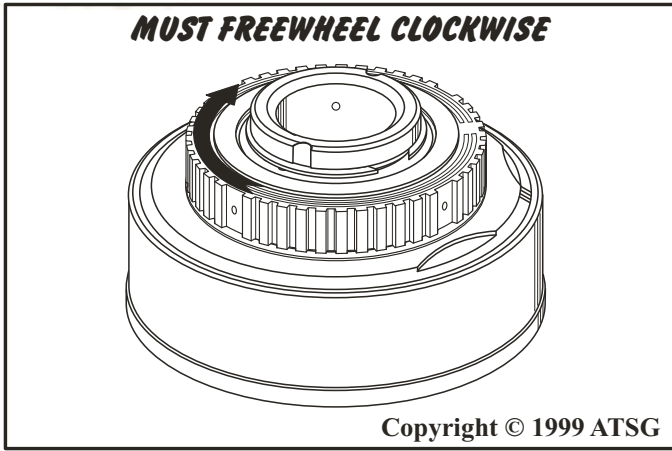

Figure 81
22. After assembly, check the outer race for proper freewheel direction, as shown in Figure 81.